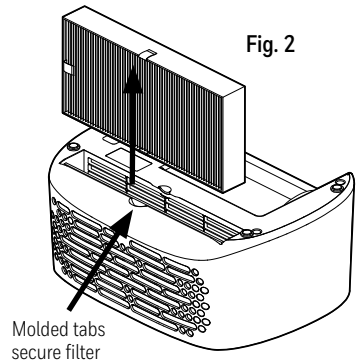

Fig. 2
- Turn the air purifier upside down on a flat surface. The filter is visible from the bottom of the unit (**Fig. 2**).